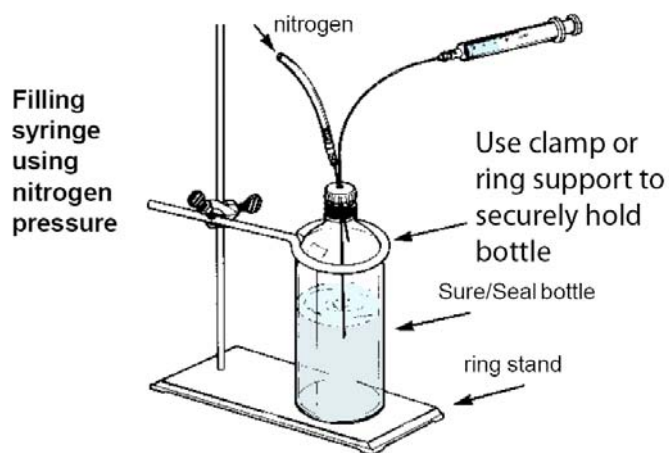

Fig. 2A Filling syringe using nitrogen pressure
- This will allow the liquid to slowly fill the syringe (up to 100mL) as shown in **Fig. 2A**. Pulling the plunger causes gas bubbles.